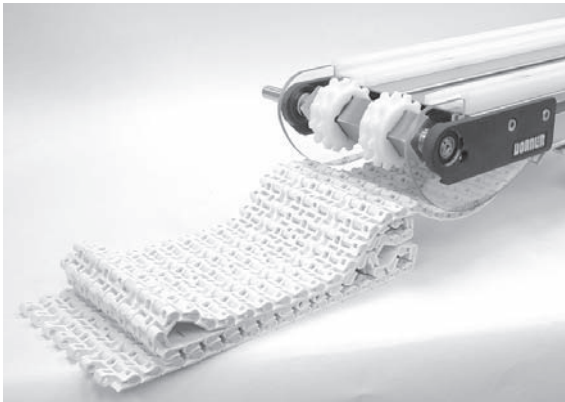

Figure 19
4. Pull back topside of belt to the drive end of the conveyor. See Figure 19.